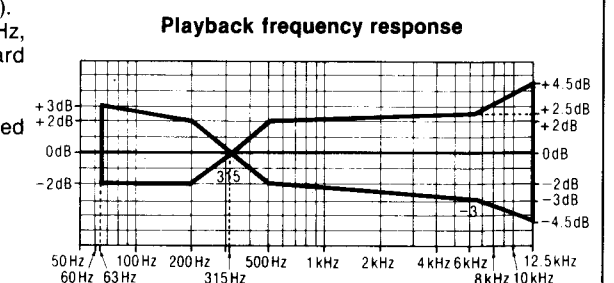

Fig. 8
- Make sure that the measured values are within the range specified in the frequency response chart. (Shown in fig. 8).